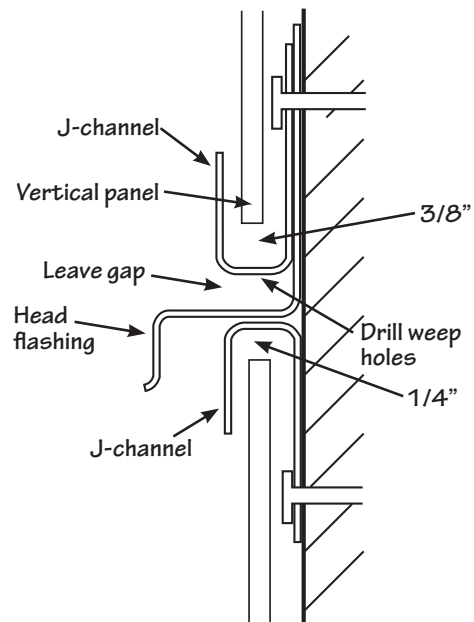
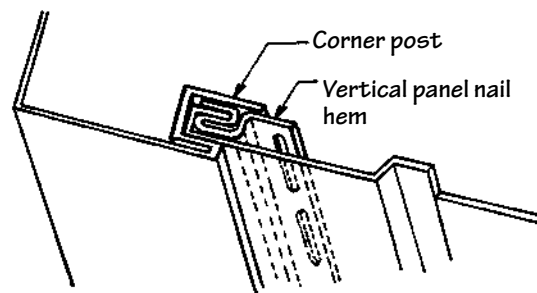

Figure 60.
Figure 61.
- If it will take more than one course to span the height of the house, terminate the first course into an inverted J-channel (Fig. 60), allowing 1/4" (6.4mm) for expansion. Install head flashing on top of the J-channel and install a second J-channel facing upward. Begin the second course leaving a 3/8" (9.5mm) gap from the bottom of the panel to the J-channel.
- If you are starting with a full vertical siding panel, you can create a starter strip for vertical siding by cutting the nail hem and adjacent lock off a vertical siding panel. Fasten it inside the receiver channel of the corner post. Be sure this piece is plumb. Leave enough clearance in the pocket of the corner post to allow the siding panel to be attached (Fig. 61).
- Begin by fastening J-channel along the inside edge of the roof. Install an upward-facing J-channel as a vertical base on top of the previously installed J-channel at the base of the gable, as shown in Fig. 60. As an alternative, install back-to-back J-channels, centered with the peak of the gable. Install a cut nailing hem as a starter-strip in each J-channel, as described above (Fig. 61).